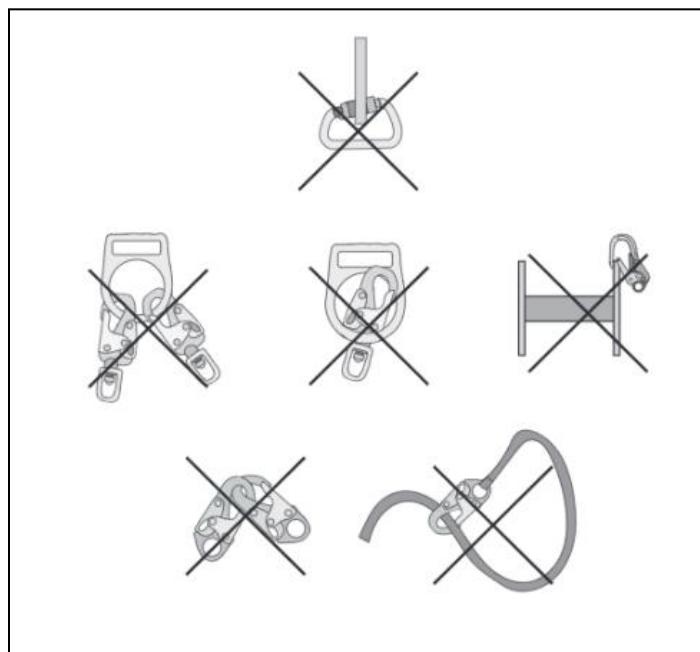

Figure 5: Proper and improper connections
- 7.5 MAKING CONNECTIONS:** Equipment (including snap hooks and carabiners) used with the SRD must be self-locking and compatible in size, shape and strength. Do not use equipment that is not compatible. Before use, ensure all connectors are fully closed and locked. Do not connect snap hooks and carabiners. (Refer to Figure 5):